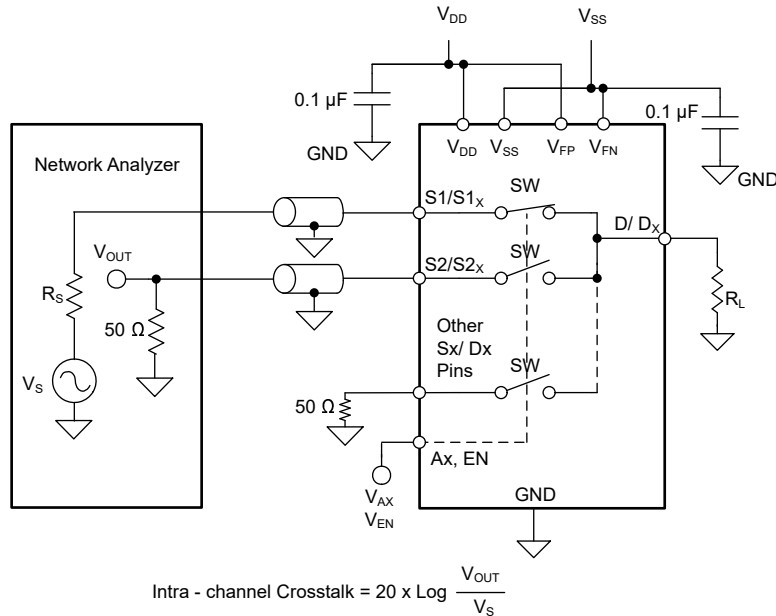

Figure 8-15. Intra-Channel Crosstalk Measurement Setup
1. Intra-channel crosstalk ($X_{TALK(INTRA)}$): Figure 8-15 shows the voltage at the source pin (Sx) of an off-switch input when a signal is applied at the source pin of an on-switch input in the same channel.